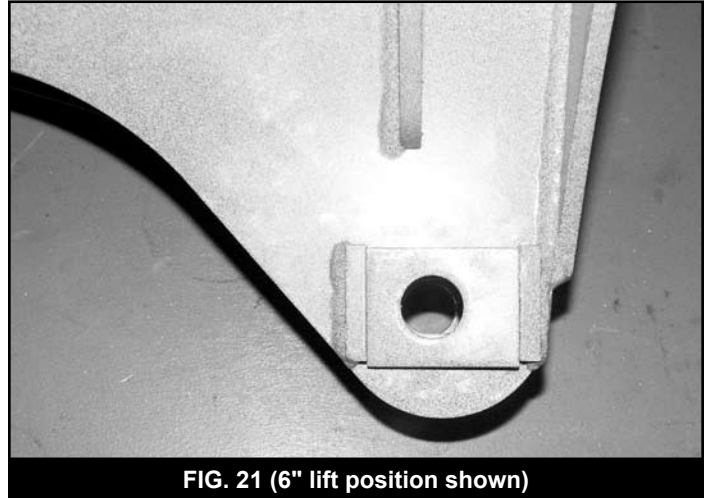

FIG. 21 (6" lift position shown)
56. Attach the track bar to the new bracket with the OE hardware. Turn the steering wheels to aid in aligning the track bar in the bracket. Torque hardware to 406 ft-lbs. Install the provided cam washers between the alignment tabs on the bracket. If installing a 4" lift, the cams will offset closer to the driver's side. They will offset to the passenger's side for a 6" lift. (Fig. 21)